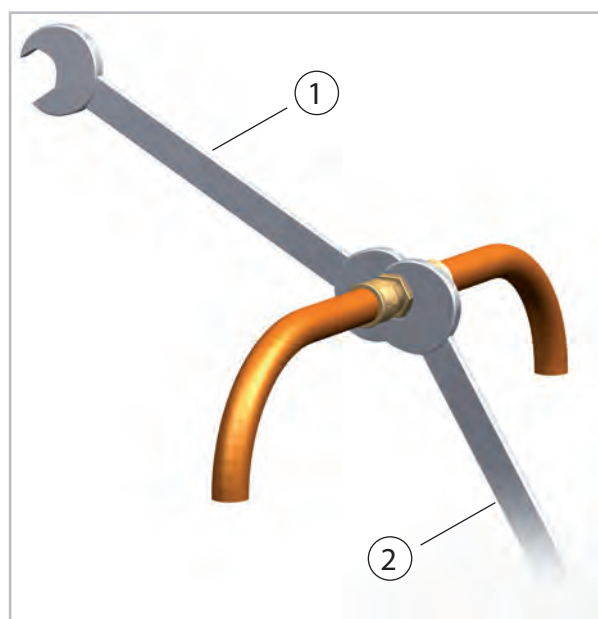

Fig. 21: Tightening the fitting
11. ➤ Then finally tighten the fittings with 2 appropriately-sized torque wrenches. Use one spanner to counter the force when tightening the fitting (Fig. 21).